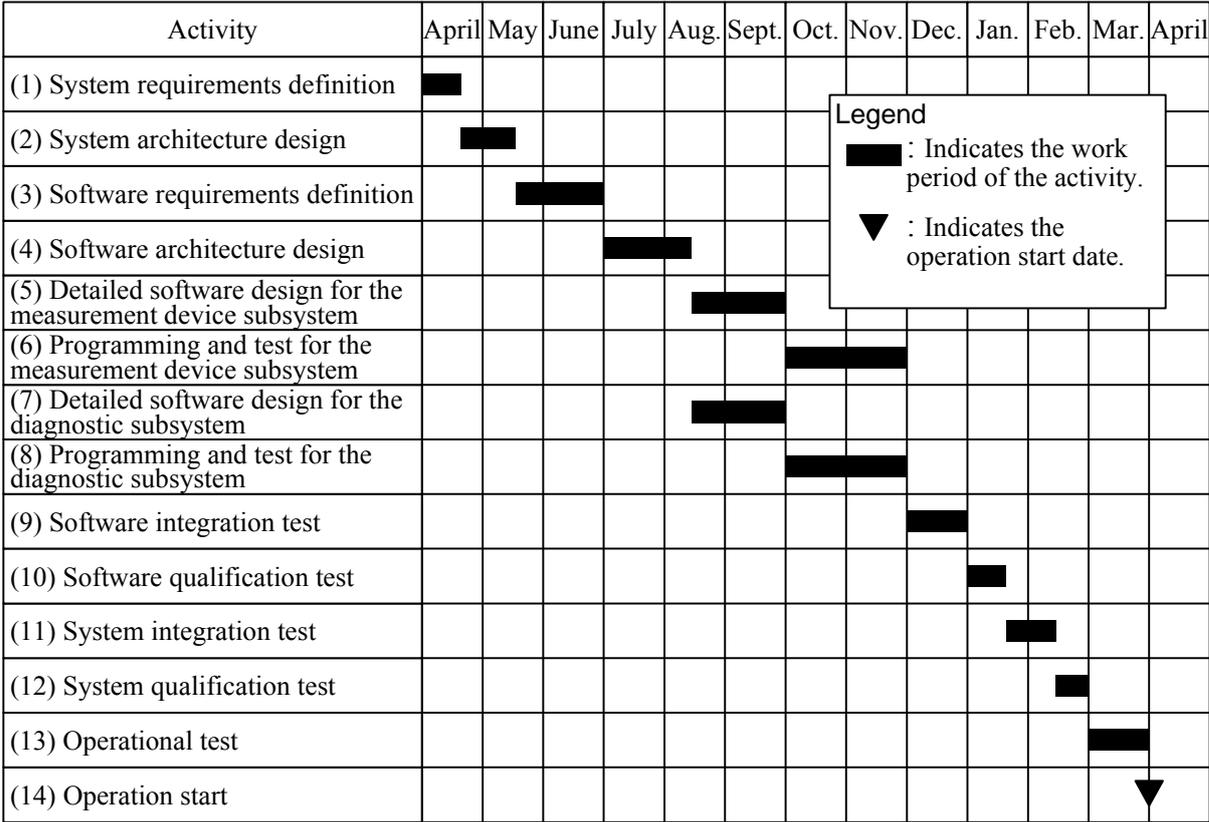

Figure 2: Schedule of the project for developing the equipment diagnostic system
Figure 2 shows the schedule of the project for developing the equipment diagnostic system.
In Figure 2, the operational test is to be performed by the customer and is mainly intended to verify operation in the actual operational environment, verify the initial data, and train maintenance personnel who use the system.
development for the equipment diagnostic system. He is in charge of the test activities (8) through (12) in Figure 2. First, Mr. C determines the activity defining the requirements to be verified and the purpose of the test for each test activity, and summarizes the result as test activity definitions shown in Table 1 below.
From (1) through (14) in Figure 2, select the appropriate activity to be inserted in each blank through in the table and description.